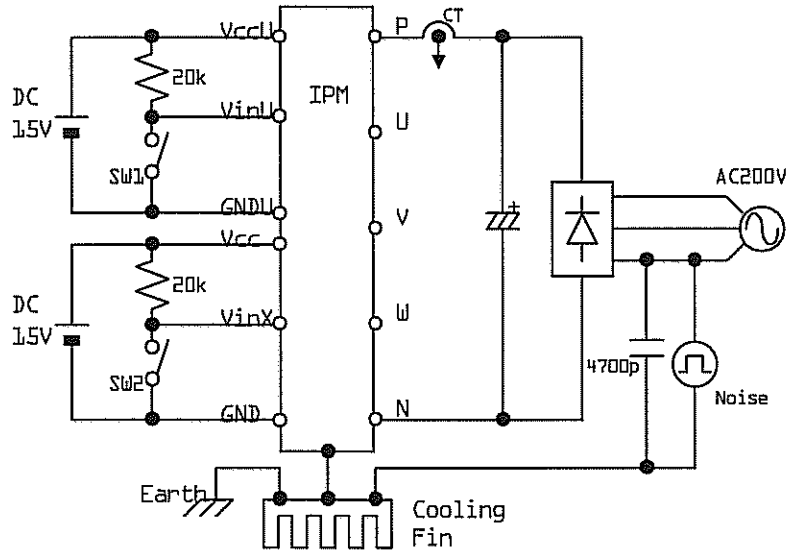

Figure 5. Noise Test Circuit
7. Noise Immunity (Vdc=600V, Vcc=15V, Test Circuit Fig 5.)